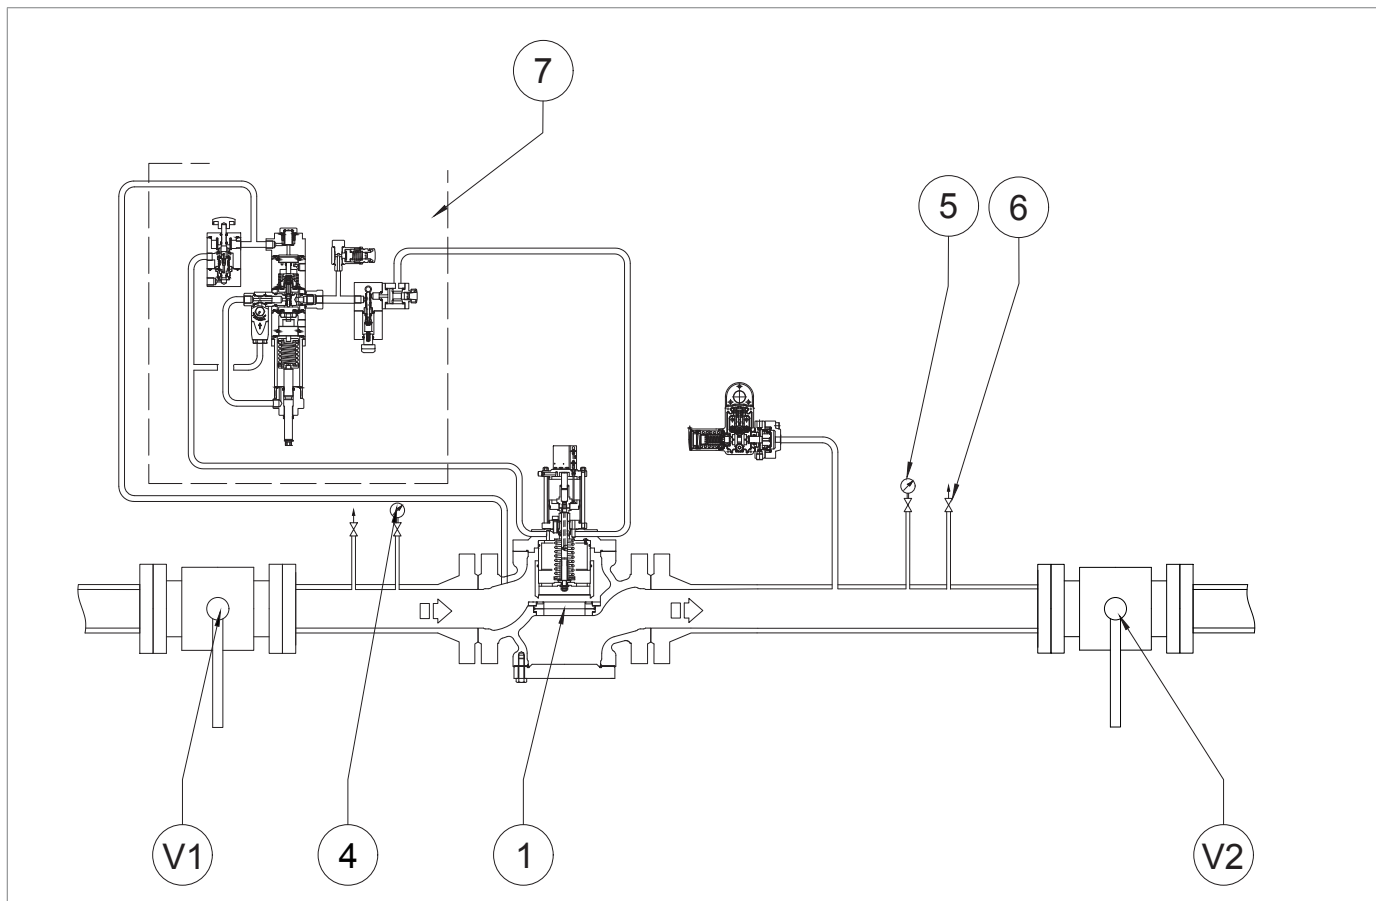

Fig. 8.11. Sealing of the HBC 975 slam-shut valve when closing
1	By acting on the main regulator, increase the downstream pressure up to the tripping value of the slam-shut valve, to check for proper calibration. ! NOTE! Check the pressure referring to the pressure gauge (fig. 8.11, ref. 5) downstream of the main regulator. If the slam-shut valve: • trips before the expected pressure value: screw in (clockwise) the adjustment ring nut (13) so as to further compress the spring (11); • does not trip at the expected pressure value: unscrew (anticlockwise) the adjustment ring nut (13) so as to relieve the spring (11).
2	By opening the vent (fig.8.11, ref. 6), decrease the pressure in the downstream section to the calibration value of the main regulator.
3	Close the vent (fig.8.11, ref. 6).
1	Open the vent (fig.8.11, ref. 6) to the atmosphere and keep it open for the next steps.
2	Decrease the downstream pressure to the minimum tripping pressure of the slam-shut device by adjusting the pilot.  NOTE! Check the pressure referring to the downstream pressure gauge (fig. 8.11, ref. 5). If the slam-shut valve: • trips before the expected pressure value: unscrew (anticlockwise) the adjustment ring nut (15) so as to relieve the spring (17); • does not trip before the expected pressure value, screw in (clockwise) the adjustment ring nut (15) so as to further compress the spring (17).
5	Open the vent again (fig. 8.11, ref. 6).
10	Close the vent (fig.8.11, ref. 6).